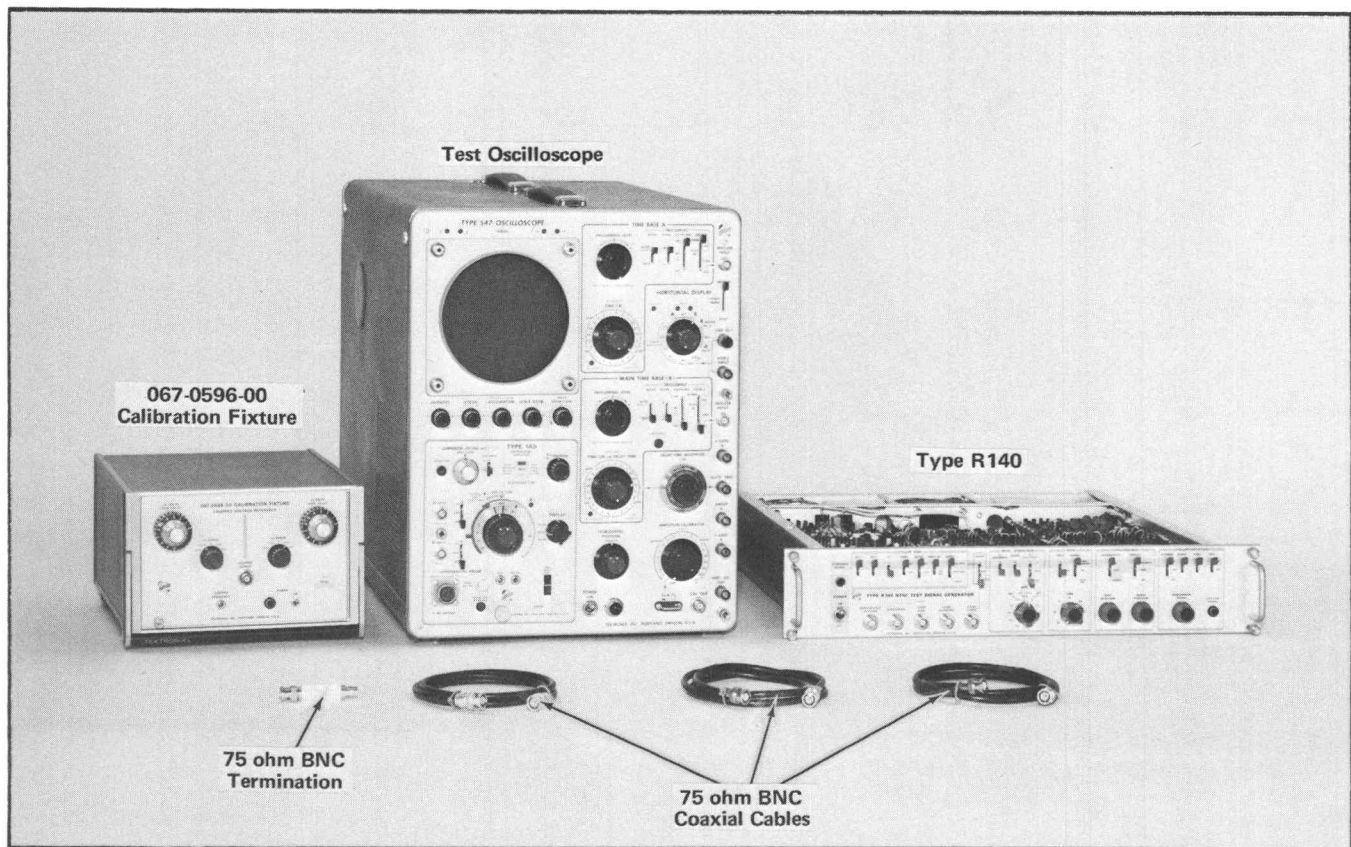

Fig. 5-21. Test equipment required for steps 18 through 31.
a. Test equipment is shown in Fig. 5-21.